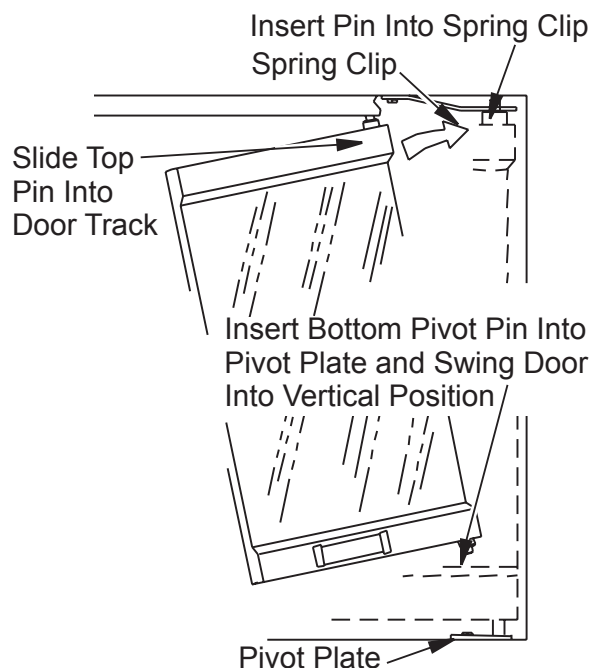

Figure 33 - Installing Optional Glass Door
2. With handle facing center of firebox opening, insert lower pivot pin on glass door panel into hole in pivot plate on bottom edge of fireplace opening (see **Figure 33**).
4. Tilt glass assembly fully vertical until outer pivot pin snaps into mounting hole in upper spring clip (see **Figure 33**).